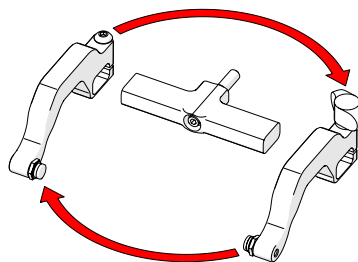

Fig. 182 - Reverse position around yoke
4. Position removed arms to opposite sides of the yoke (*Fig. 182*).